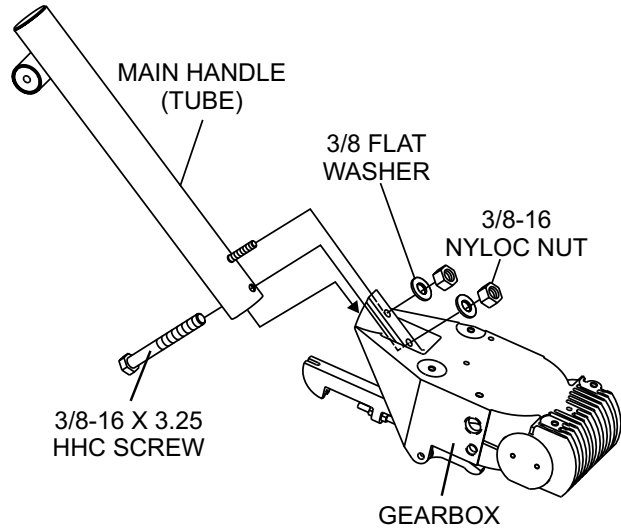

Figure 3. Handle Installation
1. Attach the main handle tube to the gearbox using the supplied hardware as shown in Figure 3.